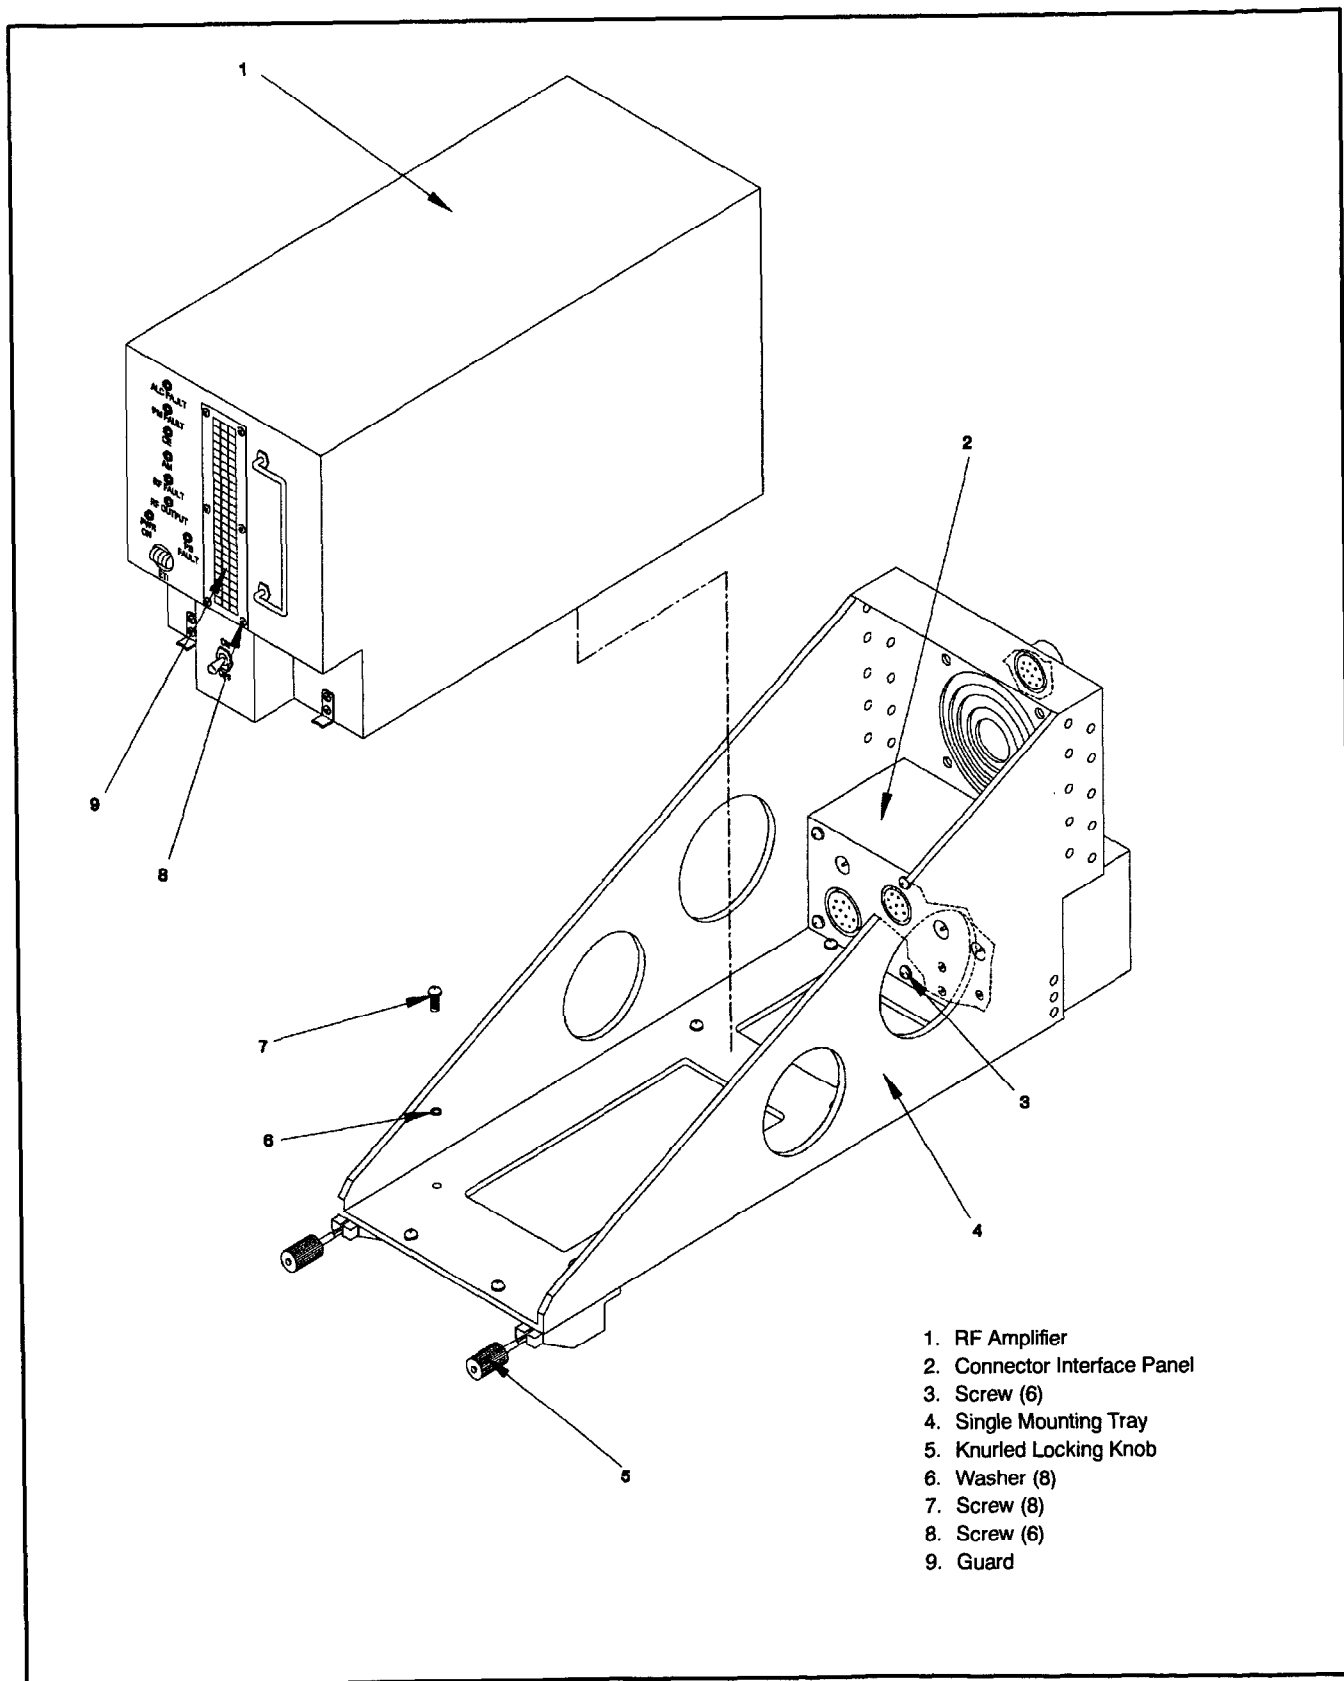

Figure 1. Removal and Installation of Radio Frequency Amplifier AM-7544/USC-42
4. REMOVAL. (figure 1.)
d. Pull the RF Amplifier (1) out of the single mounting tray (4) and place on a flat, ESD protected surface.
e. Place protective caps on all connectors and receptacles on the RF Amplifier (1).
5. INSTALLATION. (figure 1.)
d. Place the RF Amplifier (1) into the single mounting tray (4).
e. Push the RF Amplifier (1) into the single mounting tray (4) to engage the mate connectors.
f. Fasten the two knurled locking knobs that hold the RF Amplifier (1) to the single mounting tray (4). (QUALITY ASSURANCE)
7. REMOVAL. (figure 1.)
d. Remove connector interface panel (2) from the single mounting tray by removing the six mounting screws (3).
e. Pull the single mounting tray (4) out of the equipment rack.
8. INSTALLATION. (figure 1.)
b. Slide the single mounting tray (4) into the equipment rack and secure the connector interface panel using six mounting screws (3). (QUALITY ASSURANCE)
c. Secure the single mounting tray (4) to the equipment rack using eight 1/4" cap head screws (7) and eight washers (6). (QA)
d. Check the mate connectors on the single mounting tray (4) (inside and to the rear) to be sure they move freely and are free of foreign matter. (QUALITY ASSURANCE)
e. Install the RF Amplifier (1) (refer to paragraph 5).
10. CLEANING. (figure 1.)